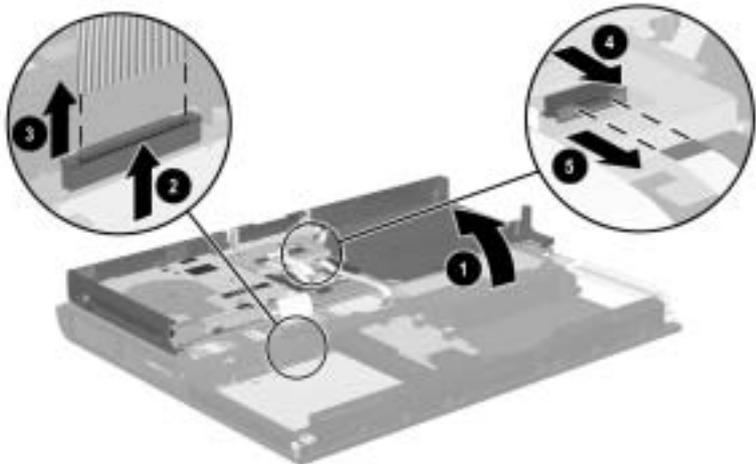

Figure 5-28. Removing the Palm Rest
8. Lift the front edge of the palm rest and swing it up and back ❶ until it rests on the top cover (Figure 5-28).
9. Release the ZIF connector to which the diskette drive cable is attached ❷ and disconnect the diskette drive cable ❸ from the system board.
10. Release the ZIF connector to which the system board-to-TouchButton board cable is attached ❹ and disconnect the cable ❺ from the TouchButton board.